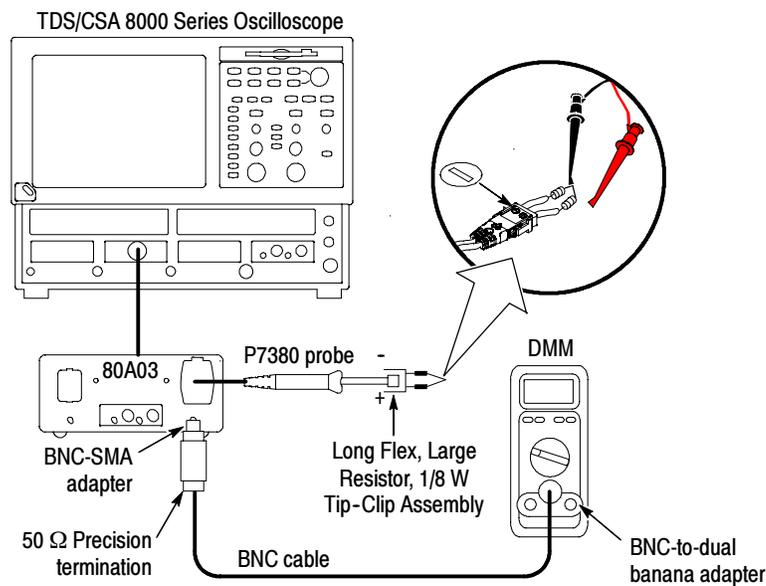

Figure 11: Setup for the output offset zero test
1. Connect the equipment as shown in Figure 11.
3. Short the two Tip-Clip leads together (see Figure 11.) We recommend using the BNC(m)-to-Minigrabber (black).